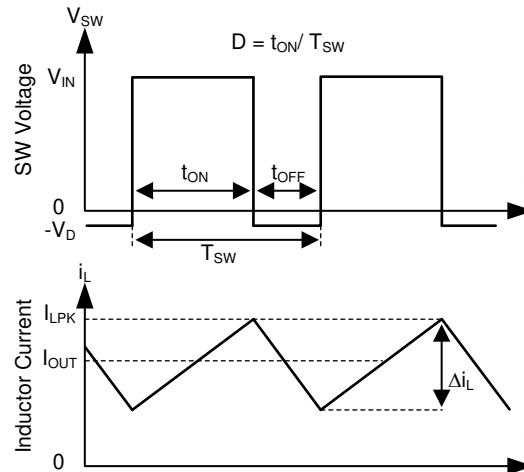

FIG 10-1. SW Node and Inductor Current Waveforms in Continuous Conduction Mode (CCM)
The following operating description of the TPS25830-Q1, TPS25831-Q1 will refer to the *Functional Block Diagram* and to the waveforms in Figure 10-1. TPS2583x-Q1 is a step-down synchronous buck regulator with integrated high-side (HS) and low-side (LS) switches (synchronous rectifier). The TPS2583x-Q1 supplies a regulated output voltage by turning on the HS and LS NMOS switches with controlled duty cycle. During high-side switch ON time, the SW pin voltage swings up to approximately V_{IN} , and the inductor current i_L increase with linear slope $(V_{IN} - V_{OUT}) / L$. When the HS switch is turned off by the control logic, the LS switch is turned on after an anti-shoot-through dead time. Inductor current discharges through the LS switch with a slope of $-V_{OUT} / L$. The control parameter of a buck converter is defined as Duty Cycle $D = t_{ON} / T_{SW}$, where t_{ON} is the high-side switch ON time and T_{SW} is the switching period. The regulator control loop maintains a constant output voltage by adjusting the duty cycle D . In an ideal buck converter, where losses are ignored, D is proportional to the output voltage and inversely proportional to the input voltage: $D = V_{OUT} / V_{IN}$.